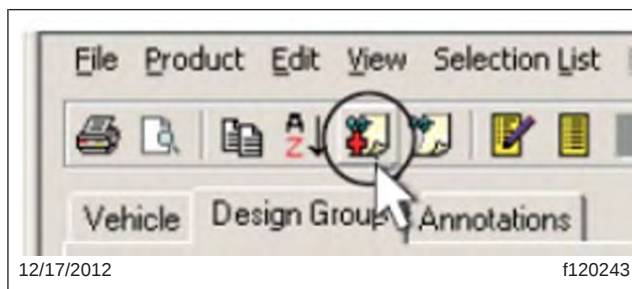

Fig. 16, Add Annotation Icon
2. In the "Design Group" tab, click the Add Annotation icon. See Fig. 16.